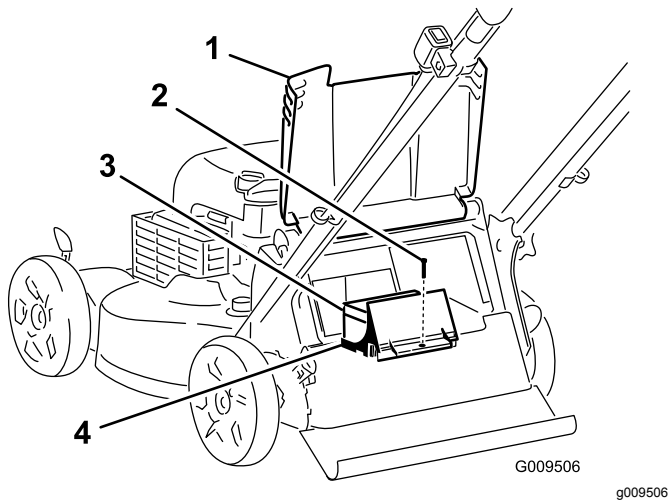
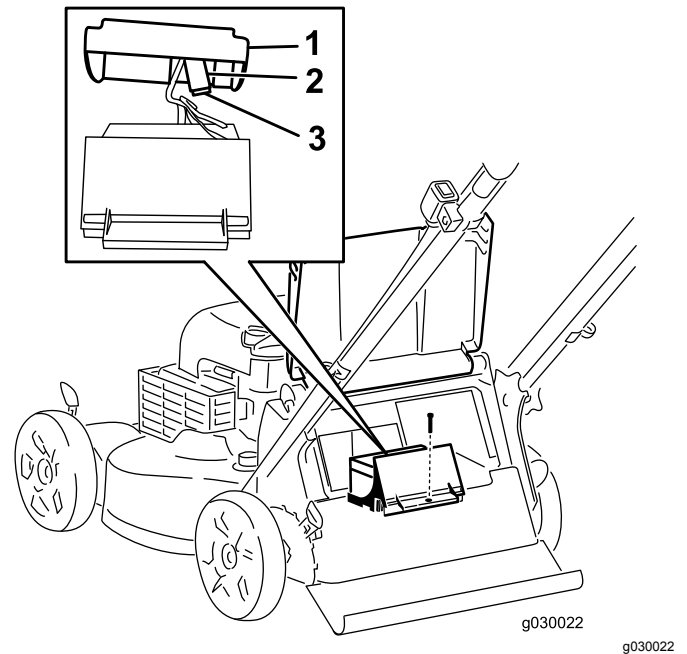

Figure 31
Figure 32
2. Raise the rear deflector and locate the battery compartment (Figure 31).
4. Remove the screw that secures the battery compartment, pull out the battery, and locate the fuse (Figure 31 and Figure 32).
5. Replace the fuse in the fuse holder (Figure 32).